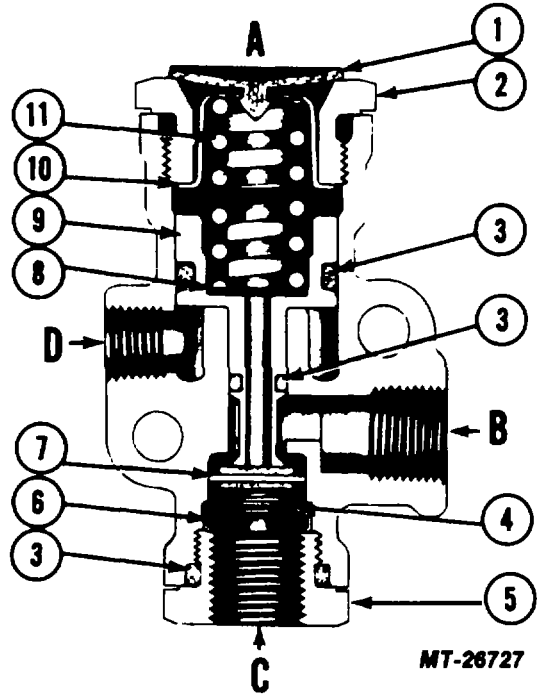

Fig. 9 Crow Section of Emergency Relay Valve
Refer to Fig. 9 for numbers and letters in parenthesis. With no air pressure at the control port (D) the piston spring (11) forces the piston (9) against the inlet valve (7) closing the exhaust passage in the hollow piston stem. The inlet valve (7) is open allowing air passage from the solenoid valve through the supply port (C) and out the delivery port (B).